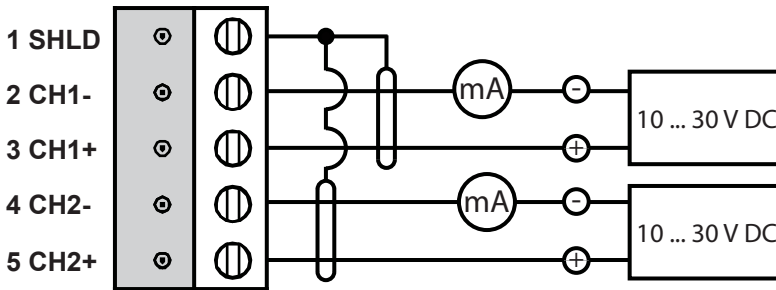

Figure 12 Isolated current loop wiring
1) Terminal numbers 1... 5 in the first column of the wiring table refer to Figure 12 \(page 23\)
3. Connect the wires as instructed in Figure 12 \(page 23\) and Table 3 \(page 23\). Suitable wire size is 0.5 ... 1.5 mm2 (20 ... 15 AWG).